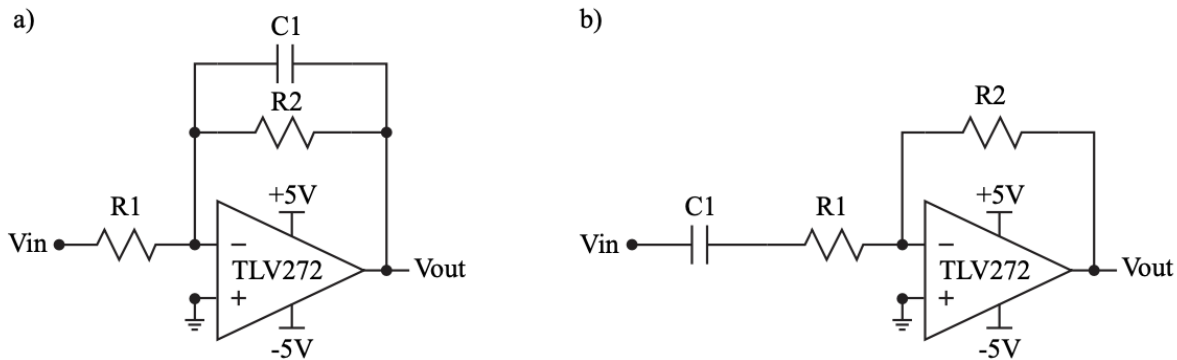

Figure 8.3: An example of an active RC low pass filter (a) and an active RC high pass filter (b).
There are a variety of active filter topologies, but a simple implementation is to use an appropriately placed capacitor in conjunction with a typical inverting amplifier configuration, Figure 8.3 (a) and (b).
3. Build an active RC highpass filter, Figure 8.3 (b). Set $C_1 = 0.1\ \mu\text{F}$ and determine the resistor values for a gain of 10 (20 dB) and a $f_0 = 482.3\ \text{Hz}$ using only values in your lab kit. Set the voltage source to an AC amplitude of 1 and run an AC analysis with the following settings: Decade, 100, 1, 1Meg. Table the 3 dB frequency. Save an image of the circuit, a plot of the output, and table the 3 dB frequency (3 dB from the passband) for submission to Canvas.